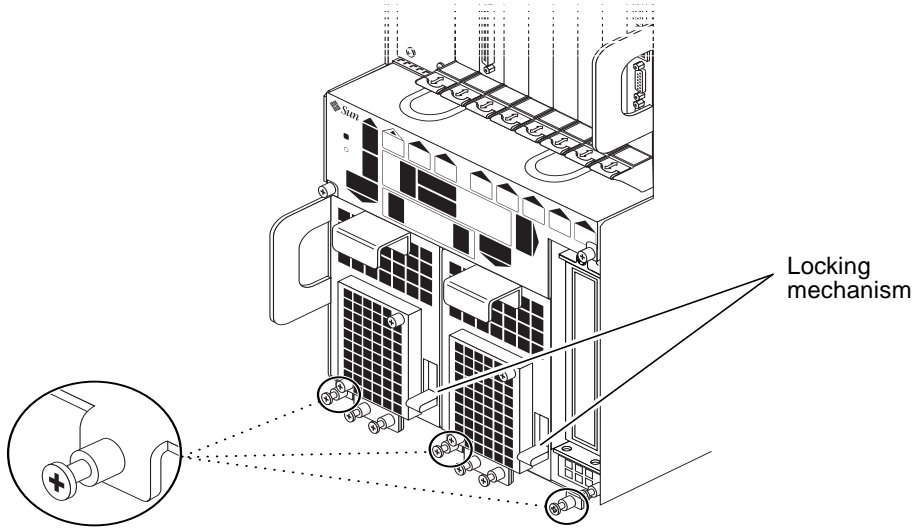
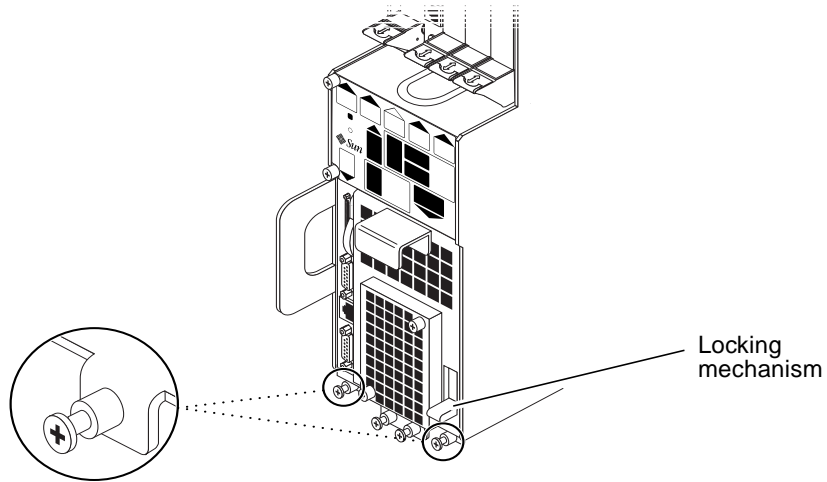

FIGURE 4-6 Tightening the Screws at the Bottom of a Netra ct 800 Server
FIGURE 4-7 Tightening the Screws at the Bottom of a Netra ct 400 Server
- If you are installing a Netra ct 800 server, tighten the *three* black captive screws at the bottom of the server (FIGURE 4-6).
- If you are installing a Netra ct 400 server, tighten the *two* black captive screws at the bottom of the server (FIGURE 4-7).
FIGURE 4-6 shows the location of the two power supply unit locking mechanisms on the Netra ct 800 server, and FIGURE 4-7 shows the location of the single power supply unit locking mechanism on the Netra ct 400 server. Make sure you lock *both* power supply units if you are replacing a Netra ct 800 server.